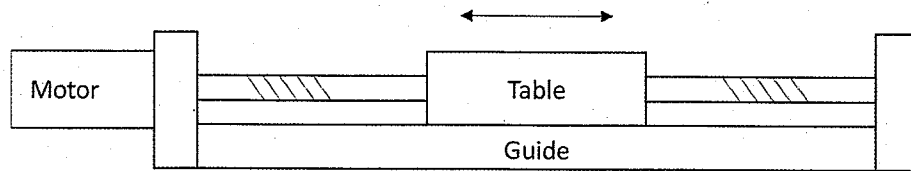
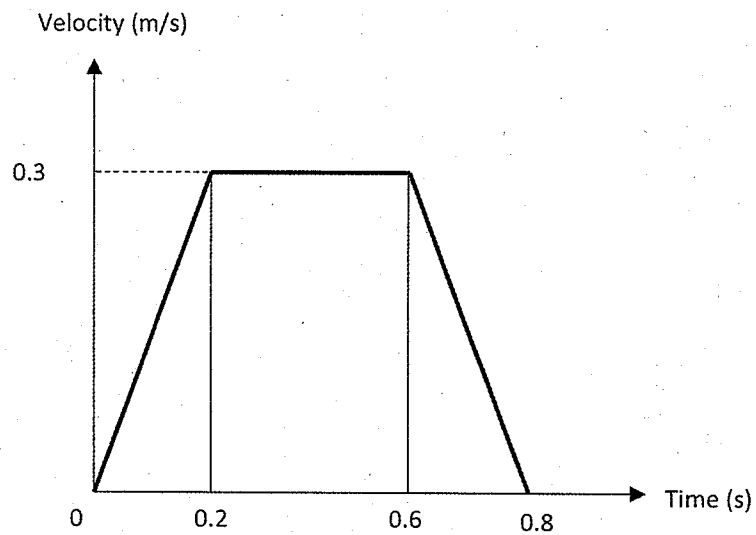

Figure 3-3
Figure 3-4
II. Consider a table feed mechanism that horizontally moves using a square screw (effective diameter 16 mm, pitch 4 mm) and a motor as shown in Figure 3-3. Let the mass of the table be $M = 10$ kg, the coefficient of dynamic friction between the thread faces be $\mu_b = 0.1$, and the coefficient of dynamic friction between the table and the guide surface be $\mu_t = 0.15$. Here, the relationship between the torque required for fastening a screw, T , and the axial force, F , is given by the following expressions.
- (1) When the table is driven as shown in Figure 3-4, calculate the force generated on the screw during the acceleration.
- (2) Find the torque [Nm] required for acceleration in the case of Question (1).
- (3) Obtain the required motor speed [min^{-1}] and power [W] for the motor when the table moves at constant speed of 0.3 m/s.
- (4) A ball screw (ball center-to-center diameter is 16 mm, lead is 4 mm) and linear bearings are used instead of the square thread in the case of Question (3). Calculate the required power [W] for the motor when the coefficient of dynamic friction of the ball screw is $\mu_b = 0.004$ and the coefficient of dynamical friction of the linear bearing is $\mu_t = 0.003$.
- (5) When the linear bearing and the ball screw for the structure in Figure 3-3 are used in the direction of gravity, the table will fall by its own weight. Describe a method to prevent this phenomenon.